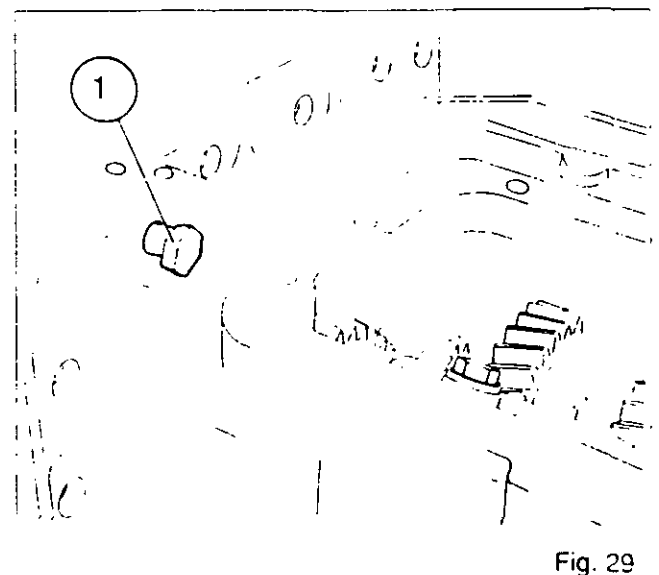

Fig. 29
92. Clean the mating face of the cover (56).
- N.B.: Do not forget to fit bolt (1) to the housing (Fig.29).**
**N.B.:** Do not forget to fit bolt (1) to the housing (Fig.29).